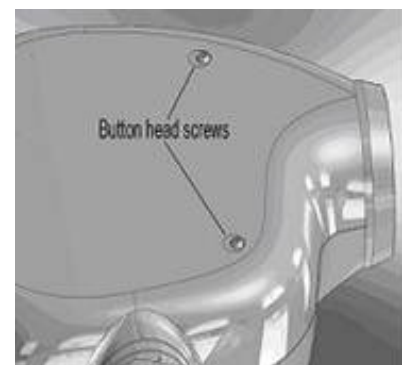

Figure 23
- On the bottom side of the Tube head remove the rubber plugs at 4 locations where the screws are fixed on the Tube Head and remove the 2 M3X6 Hex. Soc. button head screws as shown in Figure 23 using 2 mm allen Key.